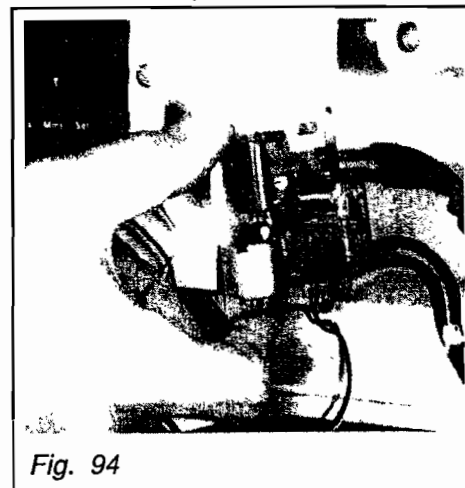

Fig. 94
- (b) Unscrew and remove small PCB retaining screw. Remove printed circuit board by sliding it forward and out of the slots in inner lower front panel Fig.94.